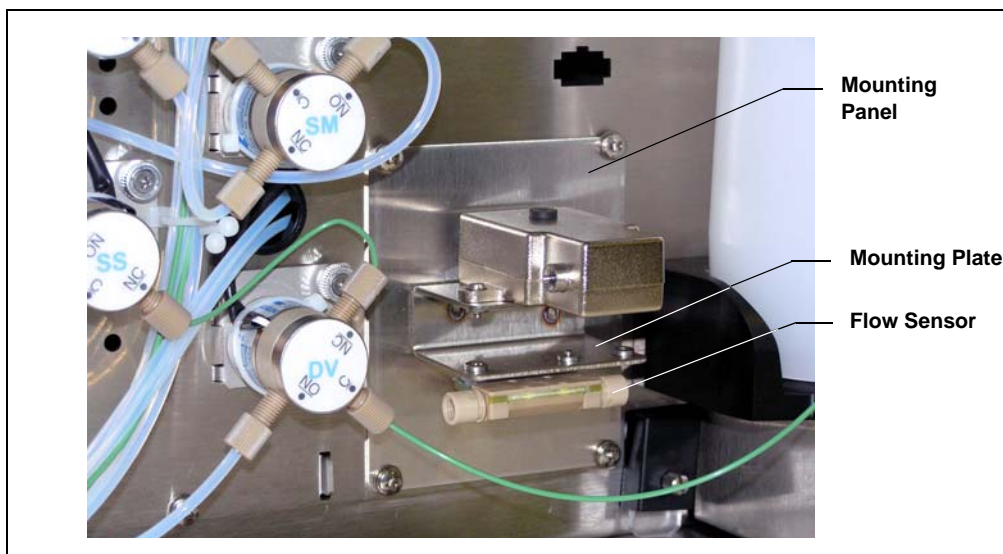

Figure 3-39. Flow Sensor
2. Using the screws and washers provided in the Flow Sensor Kit, attach the flow sensor to the mounting plate, as shown in Figure 3-39. Make sure the nylon washers are installed between the electronics board on the flow sensor and the mounting plate.